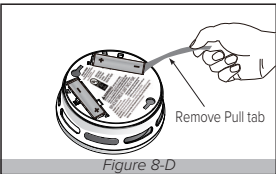

Figure 8-D
Step 3: Install the alarm fully on the mounting bracket by rotating the alarm in a clockwise direction. (Figure 8-E)